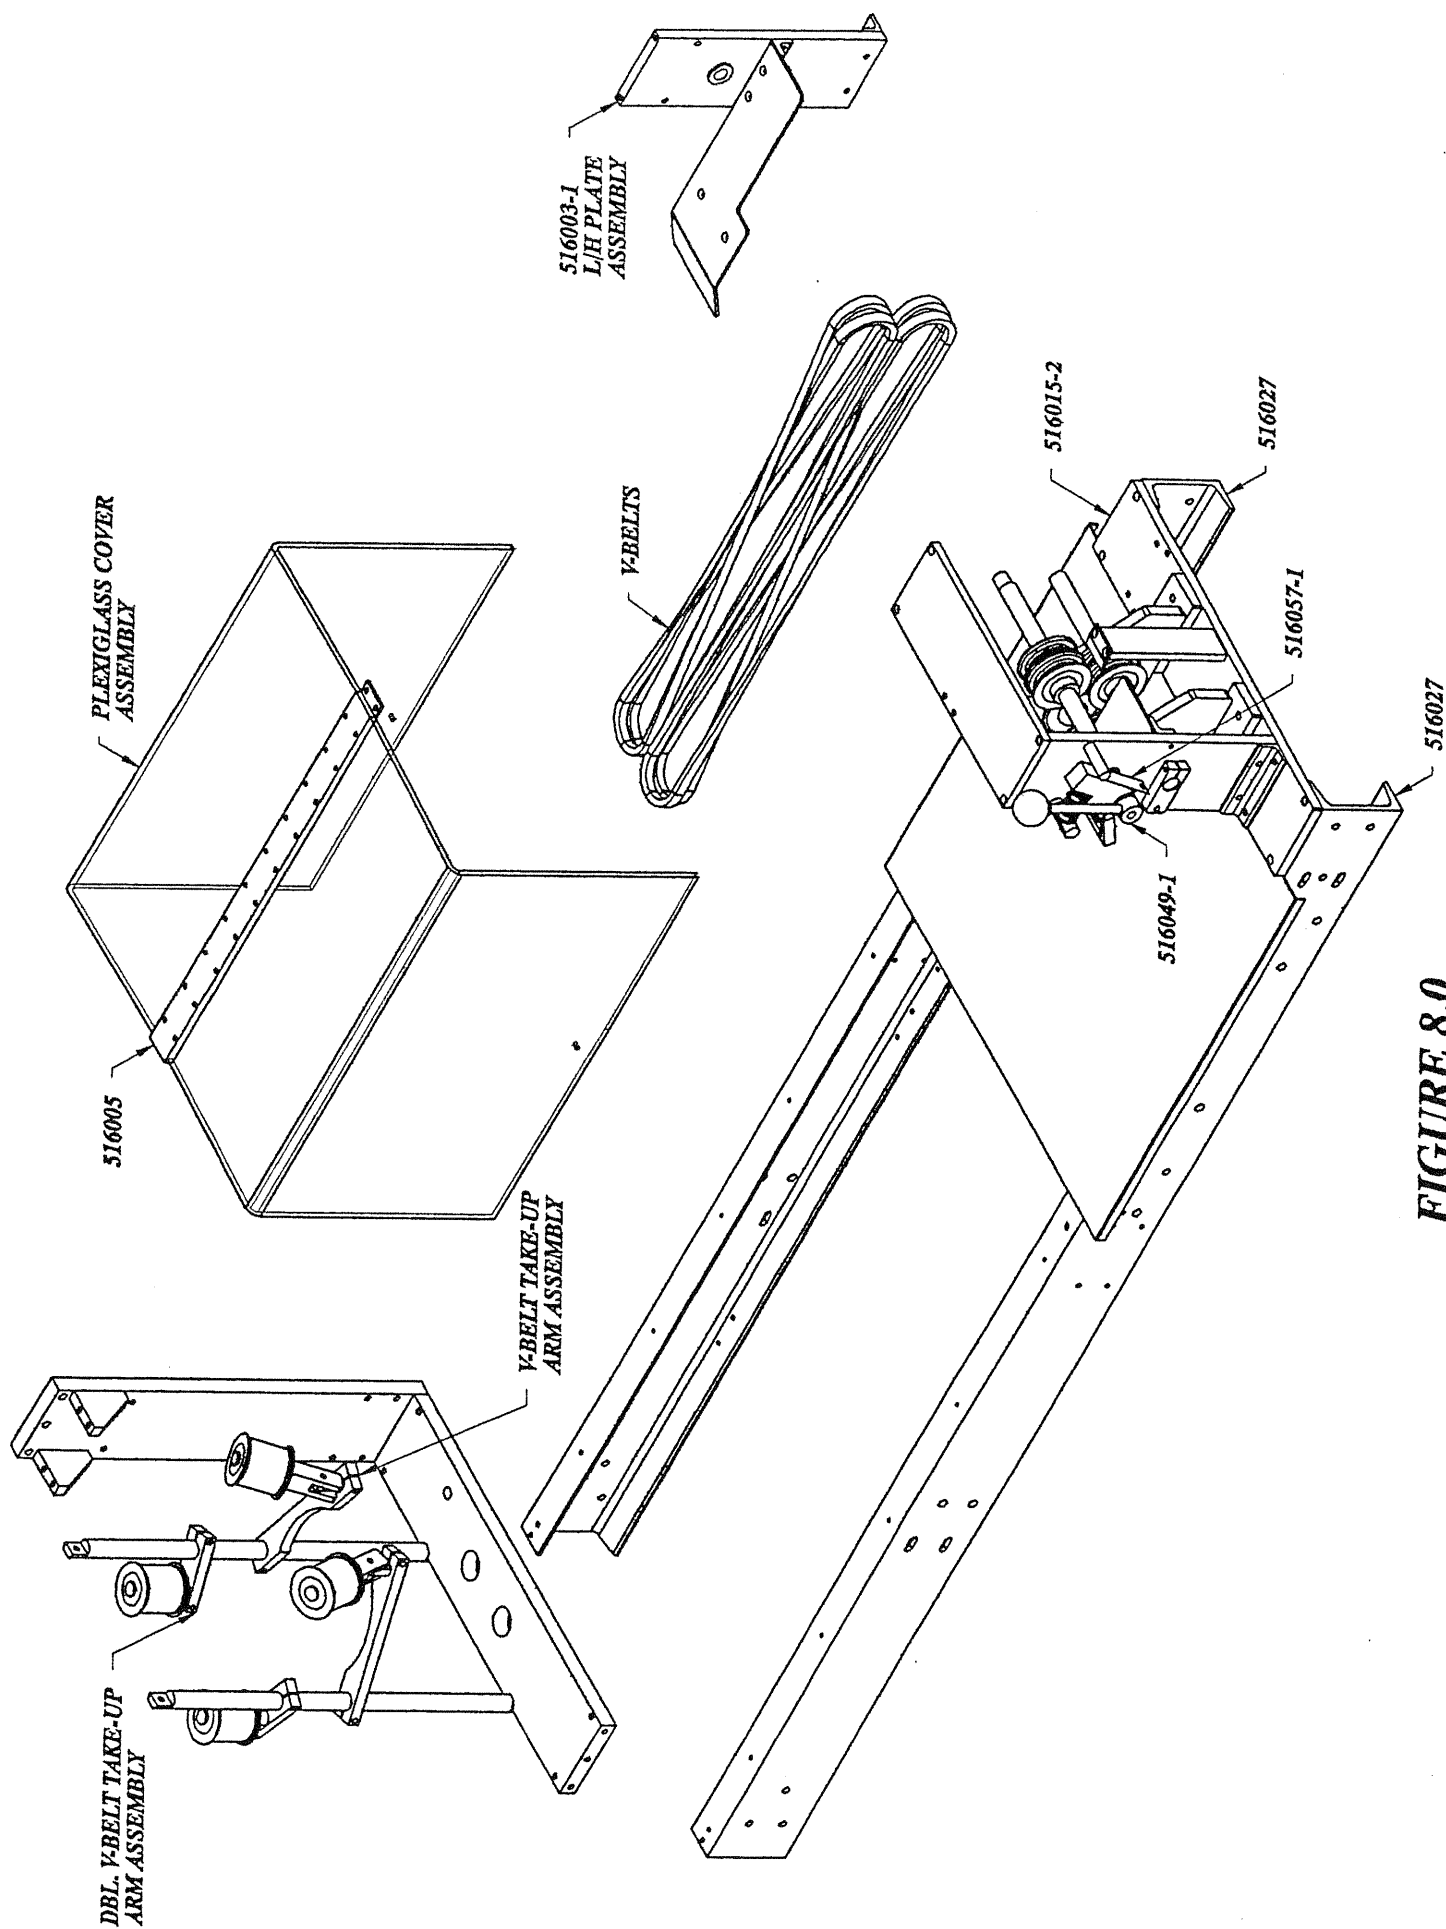

FIGURE 8.0
- 14.) Remove left hand side plate 516003-1 from plate 516015-2. See Figure 8.0
- 16.) Re-install the side frame 516003-1 onto plate 516015-2. See Figure 8.0
- 17.) Loosen outfeed clamp assembly and rotate handle to swing rollers towards vertical roller. See Figure 8.0
18.) Place outfeed frame assembly on channels as shown. Place rear edge of plate 516015-2 against cover part 516036. Pull down on outfeed assembly and install screws securing plate 516015-2 to channel 516027. See Figure 8.0
21.) Install cover mounting plate 516005. See Figure 8.0
2.) Remove plexiglass mounting plate 516005. See Figure 8.0
4.) Remove handle 516049-1. See Figure 8.0
5.) Loosen and remove clamp 516057-1. See Figure 8.0